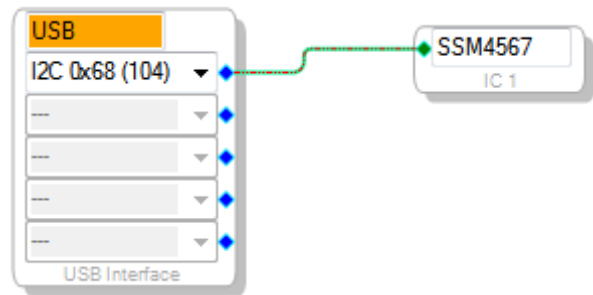

Figure 16. USBi to SSM4567 Communications Connection
- d. Drag **USBi** and **SSM4567** from the tree toolbox to the **Hardware Configuration** window, and connect one blue pin of USBi to the green pin of the SSM4567 by clicking and dragging a wire as shown in Figure 16.